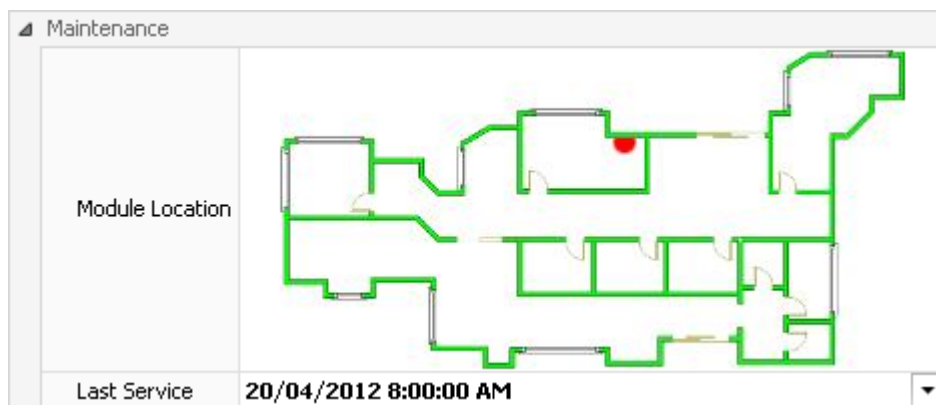

Figure 108
- Powered modules – Date & Time the last service / battery change. (*Figure 108*)
- All modules – Photo / map of physical location of modules. (*Figure 108*)